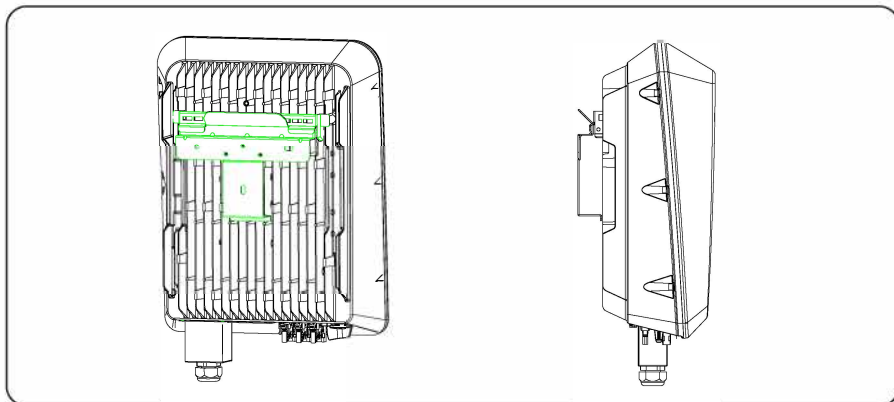

Figure 4.14 Mounting the inverter
Step 6 Mount the inverter on the rear panel and secure it as shown in Figure 4.14.